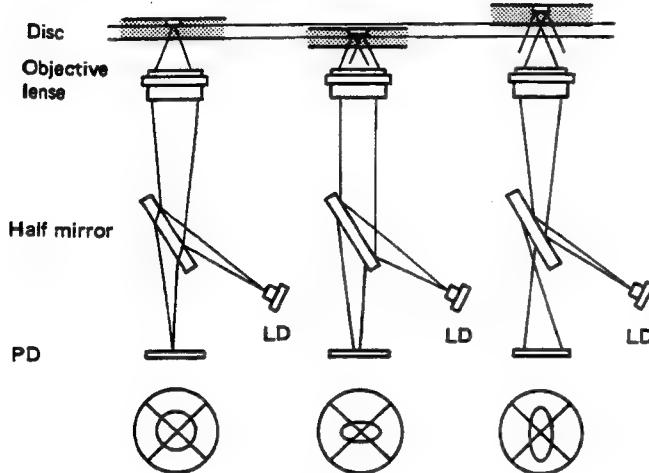
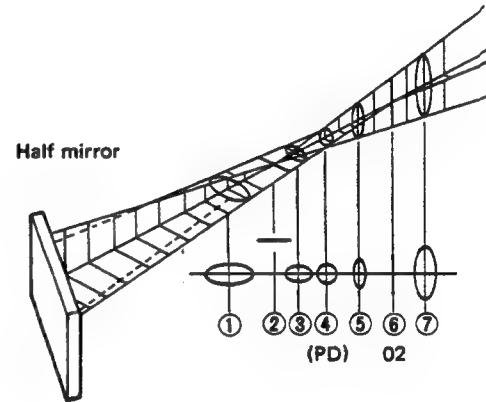

Fig. 2-3
Fig. 2-4 Half mirror
Fig. 2-3 shows how the focus signal is detected. (1) is when the beam from the laser diode is accurately focused on the disc by the objective lens. (2) shows what happens when the disc comes closer to the pickup and (3) shows what happens when the disc moves farther away. The grating and concave lens, which have no direct effect on the focusing are not shown in the diagram.
In case (1), the beam emanating from point 01 is reflected and diffracted on the disc surface to produce the condensed beam (02). In case (2), the beam is directed at a point farther than that of beam 02. Fig. 2-4 shows the properties of the half mirror. 1 through 7 shows the shape of the beam at each point. Between points 2 and 6, which are in a straight line, the beam is circular at point 4. Point 6 corresponds to beam 02 of fig. 2-3. If we assume that fig. 2-4 shows mode (1) of fig. 2-3, that means the beam is circular because the photo diode is located at point 4. In mode (2) of fig. 2-3, the location of the photo diode is closer to the cylindrical lens than it was in fig. 2-4. That means the shape of the beam is the same as that of point 3 (an ellipse that has a longer width than height). In mode (3) of fig. 2-3, the shape of the beam is that of point 5, an ellipse that has a longer height than width.
These beam shapes are shown in fig. 2-3. By performing a $(A + C) - (B + D)$ computation using the 4-D photo diode quartering elements, the focus signal is produced.
If the objective lens is moved closer to the disc until point 7 of fig. 2-4 is reached, the shape of the beam at the photo diode becomes an ellipse that is higher than it is wide.